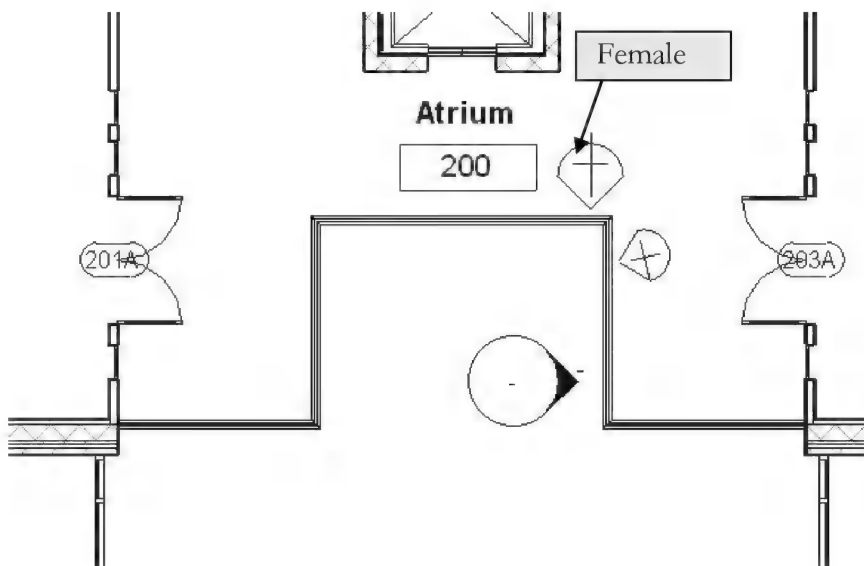

FIGURE 13-5.1 Level 2 – RPC people added
6. Place one **Male** and one **Female** as shown in **Figure 13-5.1**.
The line in the circle (Figure 13-5.1) represents the direction a person is looking. You simply rotate the object to make adjustments.